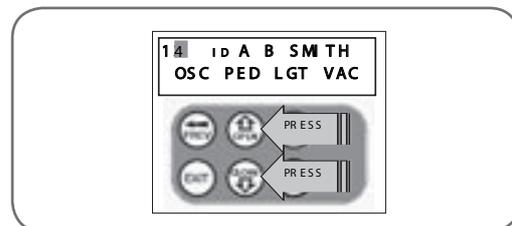

fig 38
2. Press UP or DOWN to select new Store No (**Fig. 38**).